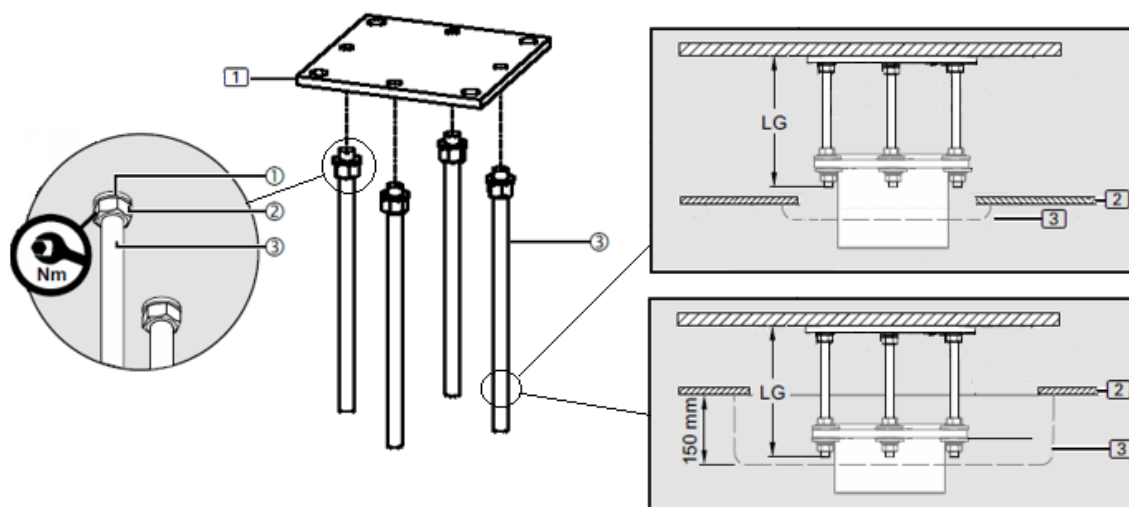

Fig. 19 Installation of the interface plate in a room with false ceiling
There are two different configurations if a downpipe is installed in a room with a false ceiling. One possibility is that the distance between the floor and the false ceiling completely covers the length LG of the threaded bolts (3), in this case a flat ceiling trim with a height of 10mm is supplied as shown in the upper right part of figure 6. The other possibility is that the distance between the floor and the false ceiling is not sufficient for a correct installation and energy supply passage, in this case a trim of 150mm in height can be ordered (optional) as shown in the lower right part of figure 19.
- Cut the threaded bolts M16 x 350 mm (3) to length if necessary.
- The ceiling trim (3) will be fitted flush with the false ceiling at a later date. It covers the counter plate (4).
- If the threaded bolts M16 x 350 mm (3) have been cut, remove the burrs to ensure maximum thread engagement in the interface plate (1).